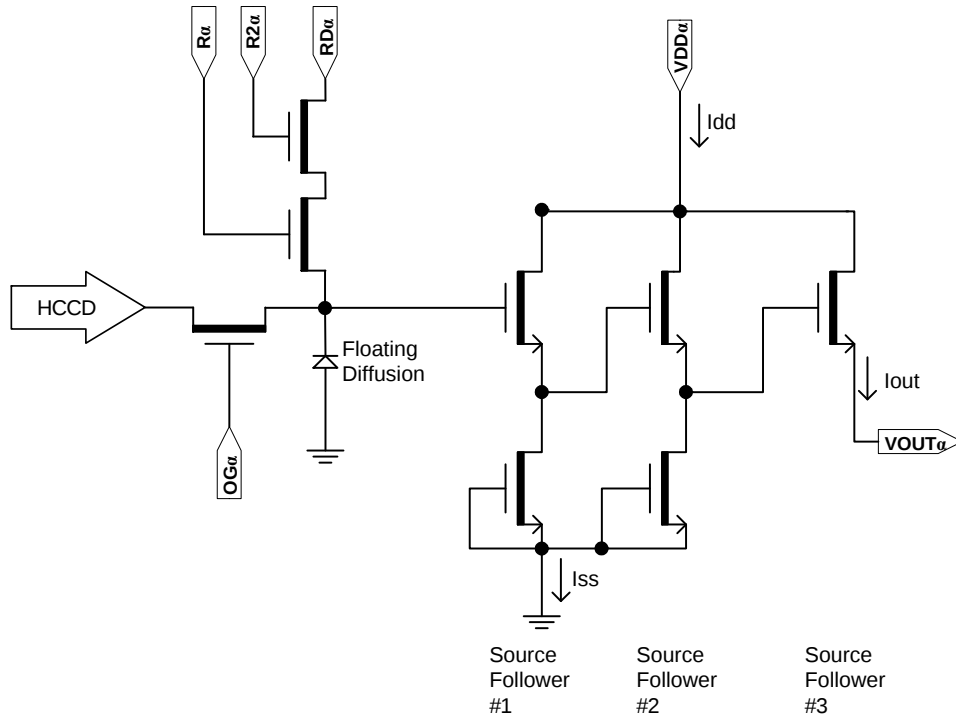

Figure 21. Output Amplifier – Showing Dual Reset Pins
2. The maximum DC current is for one output. Idd = Iout + Iss. See Figure 21.